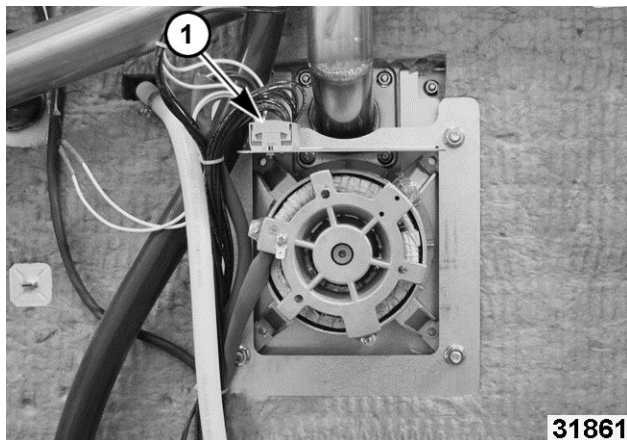

Fig. 57
4. Remove motor shroud (1, Fig. 57).